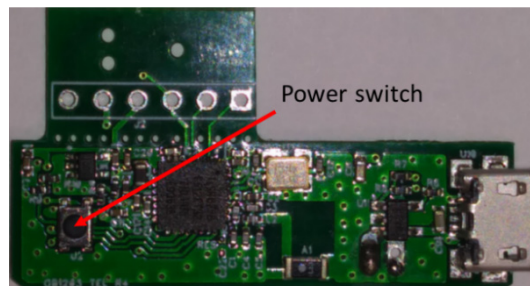

Figure 6. PCB Activation Switch
- e. Open app. Activate sensor board by pushing the activation switch (Figure 6). Keep finger off sensor to get a low data rate while pairing Android device with sensor. App asks for Bluetooth pairing. After pairing close app and reopen it.
3. Put your finger on the heart rate sensor. Apply pressure until the activation switch on the bottom side of the PCB (see arrow in Figure 6) clicks. Keep pressure until counter starts counting.